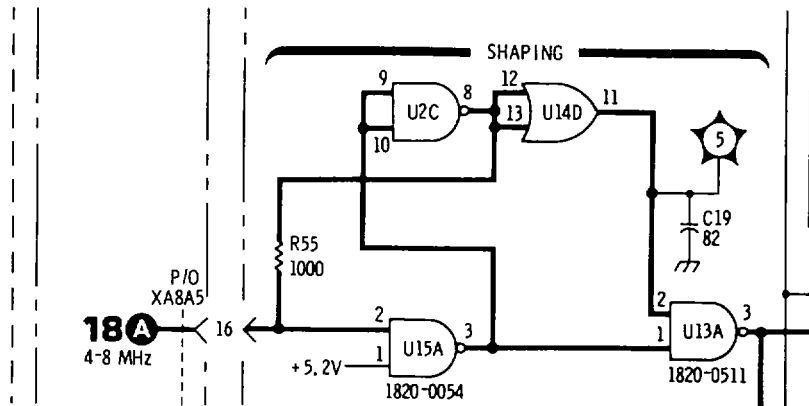

Figure 7-1. A8A2 Counter/Lock Board Assembly Backdating (Change B).
- Replace appropriate portion of schematic with attached partial schematic (Figure 7-1).